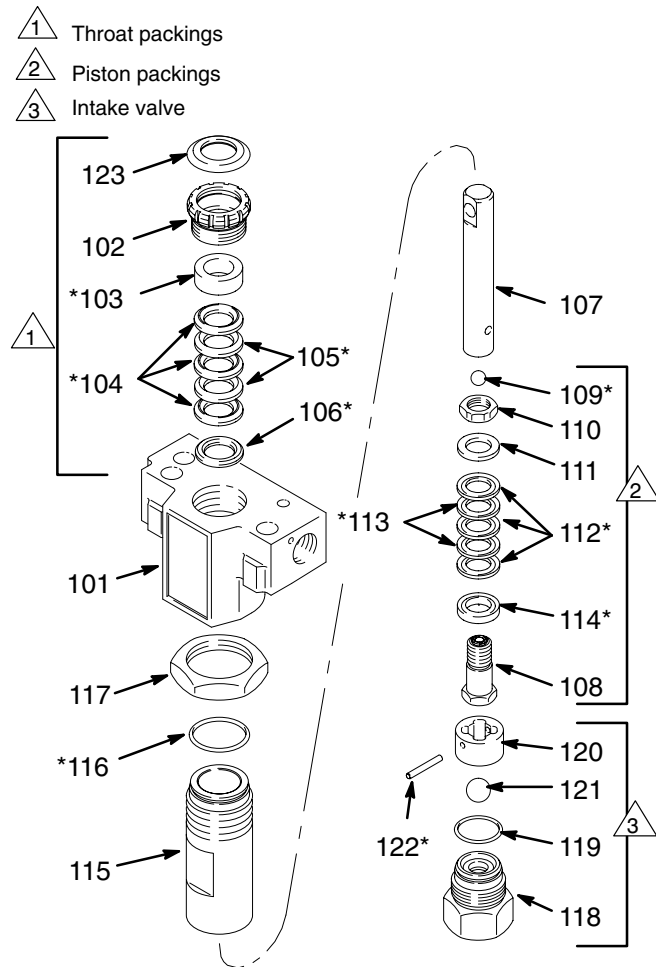

Fig. 18
Disassembling the pump (See Fig. 18.)
NOTE: Alternate plastic and leather packings. See Fig. 18. The lips of the throat V-packings face down. The lips of the piston V-packings face up. Incorrect installation damages the packings and causes pump leakage.
1. Check the outside of the piston rod (107) and the inside of the cylinder (115) for wear. Replace worn parts to ensure a good seal with the new packings.
2. Stack these parts onto the piston valve (108) one at a time: the female gland (114*), alternately three plastic (112*) with two leather packings (113*), and the male gland (111*). See Fig. 18.